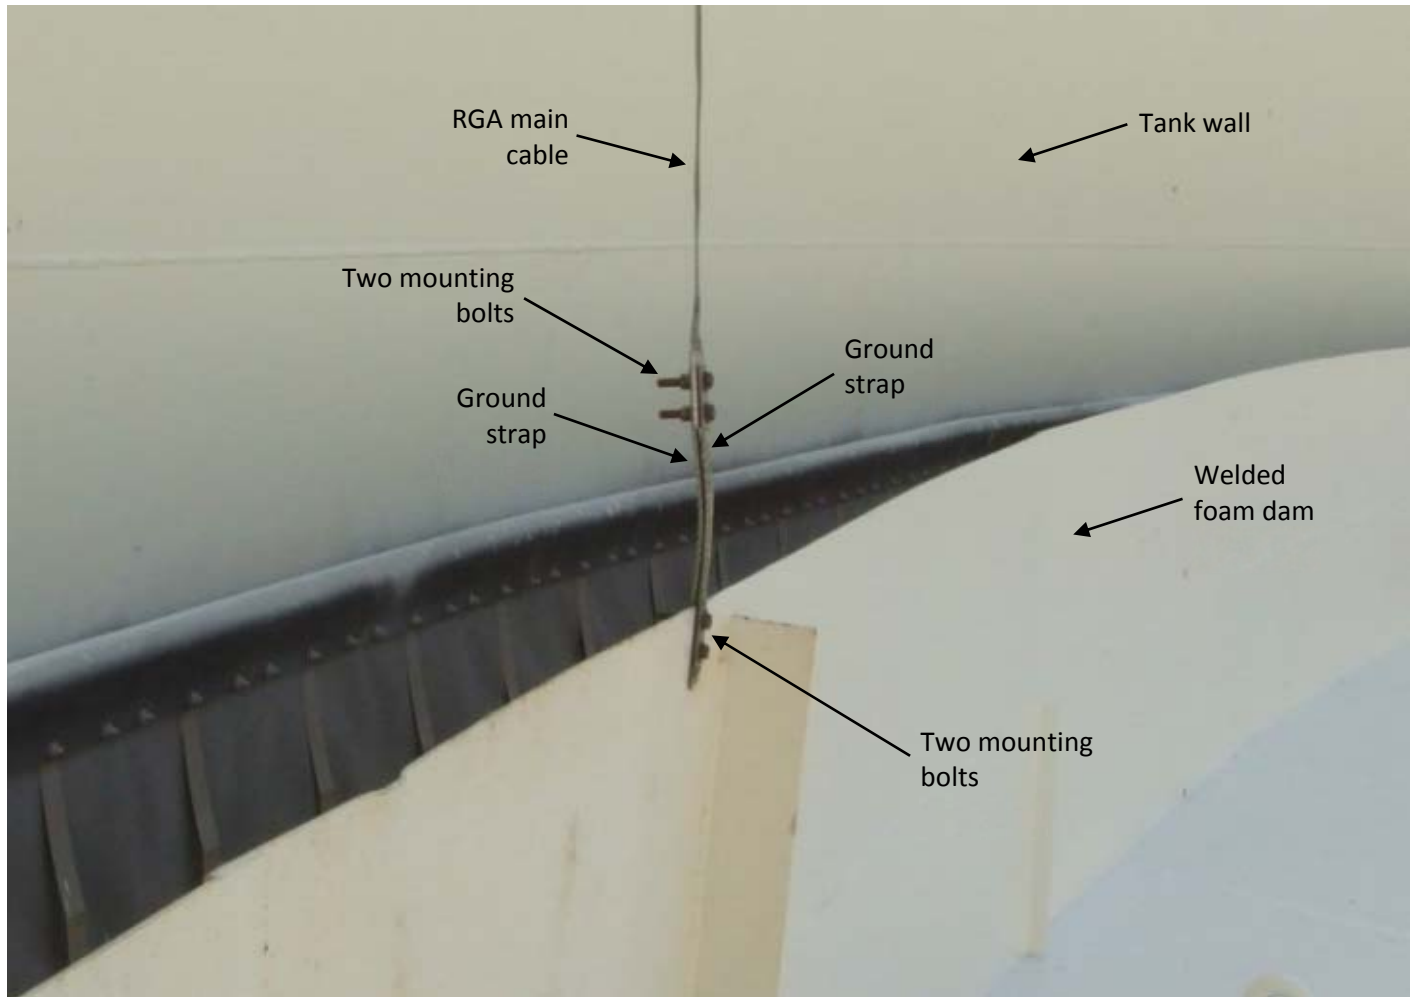

Figure 10: Ground straps on either side of welded foam dam
3.2.2 Regardless of the type of foam dam utilized, ensure that two straps are used to secure the main cable to the foam dam/floating roof. One strap should be used on each side of the main cable and each side of the foam dam/floating roof connection point, as shown below in Figure 10, in order to ensure sufficient electrical contact area at the connection points.